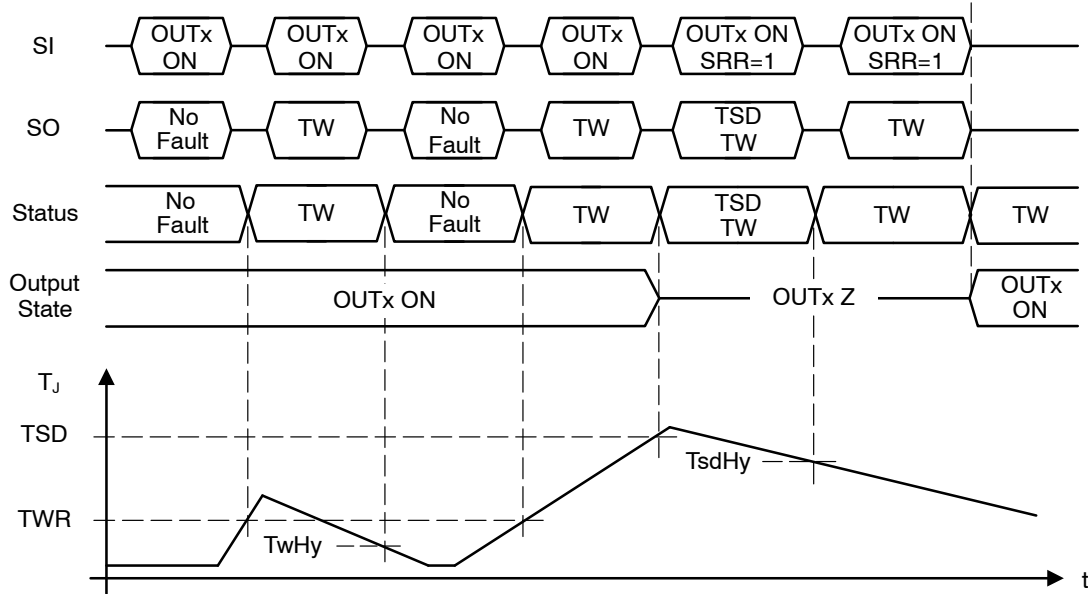

Figure 23. Thermal Warning and Shutdown Timing
Thermal warning (TW) and thermal shutdown (TSD) detection and control are provided for each half-bridge by monitoring the driver pair’s thermal sensor. Thermal hysteresis is provided for each of the warning and shutdown functions to ensure clean detection transitions. Software polling of the TW bit allows for avoidance of thermal shutdown since TW notification precedes TSD notification. Thermal warning and shutdown timing is shown in Figure 23.